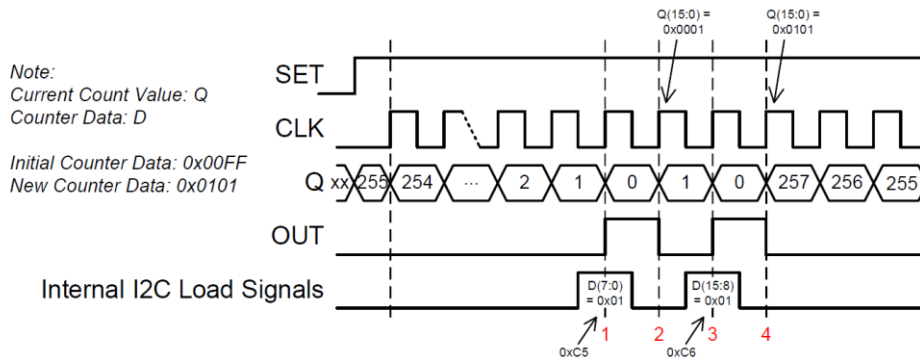

Figure 10: I2C Write of 16-Bit Counter Data Example
The timing diagram in Figure 10 sets up a case where an improper output will be seen on the counter. In this example, the initial Counter Data value (D) is set up as 0x00FF. As you can see, the
For the following condition, the Counter Data register contents are unexpectedly loaded into the counter’s DFF chain. This behavior occurs when there is a falling edge on the counter block’s clock input during the data return portion of an I2C read of the Counter Data registers. Figure 10 shows this falling edge boxed in light blue followed by two I2C reads of the Current Count Value registers.